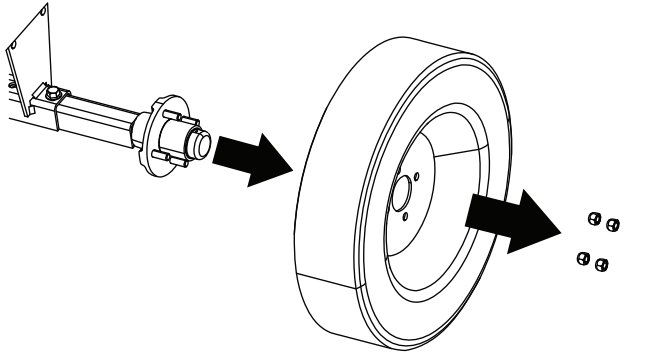

Figure 38
2. Remove the lug nuts securing the wheel to the hub (Figure 38).